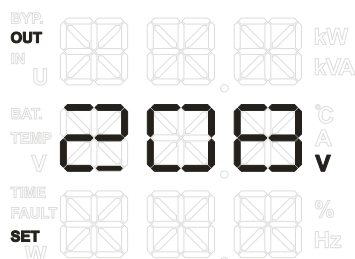

Figure4-7 Inverter voltage 208V setting
Inverter voltage 208V setting page: in the setting page, **208** flickers. If you confirm to select the setting, press **①** (ON) button more than 1s, exit the setting page, the setting succeeds. If you do not confirm to select the setting, 20s later, it will exit the setting page automatically. Corresponding LCD display is as shown in Figure4-7.